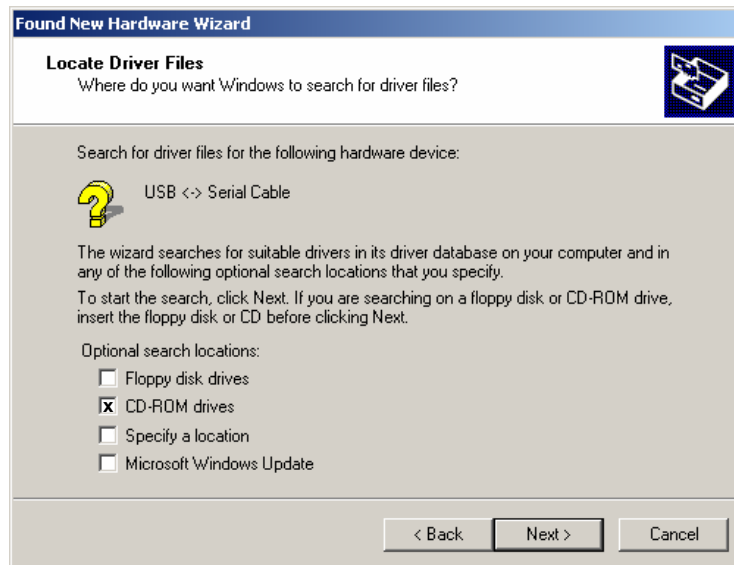

Figure 28. Found New Hardware Wizard Window #3
7. At the next “Found New Hardware Wizard” window (Figure 28), check the box next to "CD-ROM drives" and uncheck all others. Click next.